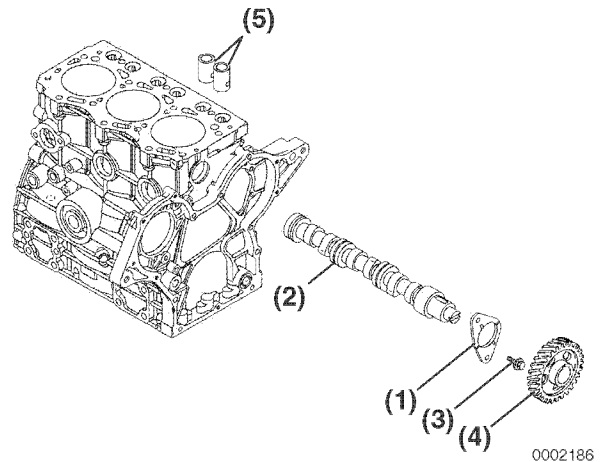

Figure 6-48
2. Remove two bolts (Figure 6-48, (3)) retaining the camshaft thrust plate (Figure 6-48, (1)).
3. Extract the tappets (Figure 6-48, (5)) through the top of the cylinder block. Mark the tappets so they can be reinstalled in the same location.
4. Slowly pull the camshaft (Figure 6-48, (2)) assembly out of the engine being careful not to damage the front camshaft bushing.
5. Remove the camshaft gear (Figure 6-48, (4)) only if the gear or camshaft require replacement. Use a knife-edge puller and a press to remove the gear. The gear is a shrink-fit and will need to be heated to 356° - 392°F (180° - 200°C) to remove.